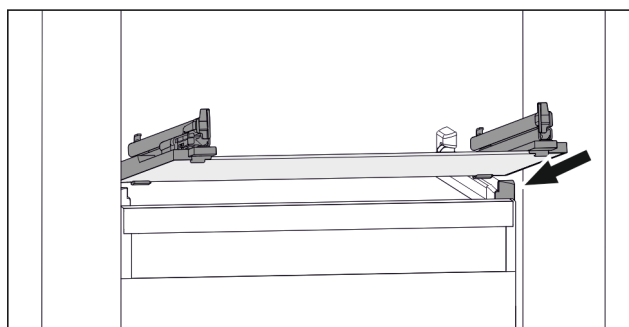

Fig. 99 Example illustration of glass shelf
- Position glass shelf at an angle behind the stoppers. (see Fig. 99)